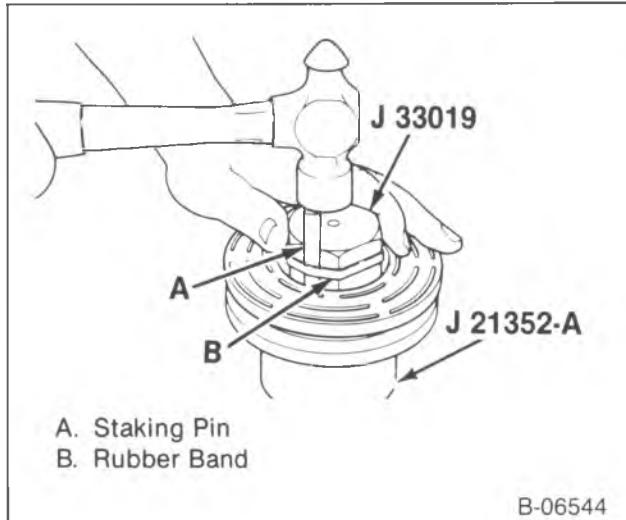

Figure 14—Staking the Pulley Bearing in the Rotor Bore
- J 33019-1 in the pulley bore (figure 14).